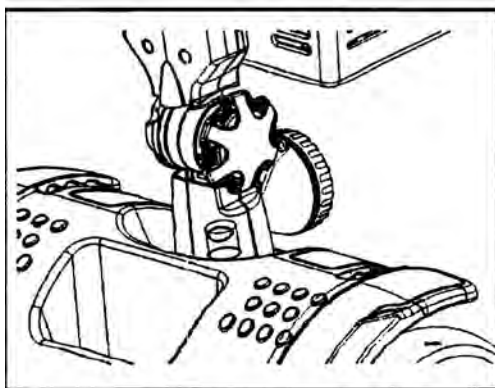

Figure 15. Tiller Adjustment Knob.
1. While supporting the tiller, turn the tiller adjustment knob counterclockwise to loosen the tiller. See **figure 15**.